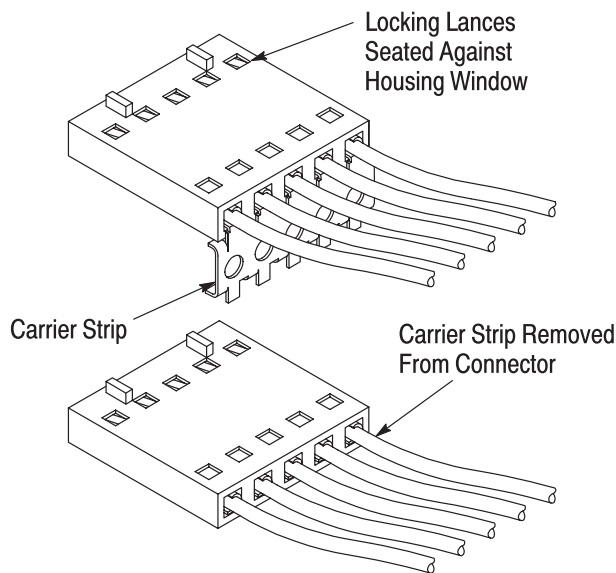

Figure 6
3. Inspect seated connector according to Figure 6.
Contacts are properly seated when the locking lances are seated against the housing window. See Figure 6.